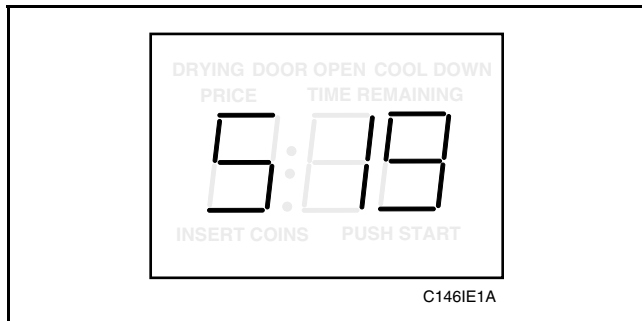

Figure 82
2. While pressing and holding the HIGH TEMP pad with one hand, press the MED TEMP pad with the other hand. Programmable option number 1, (Audio Signal “SIG”), will appear in the VFD, *Figure 82*.